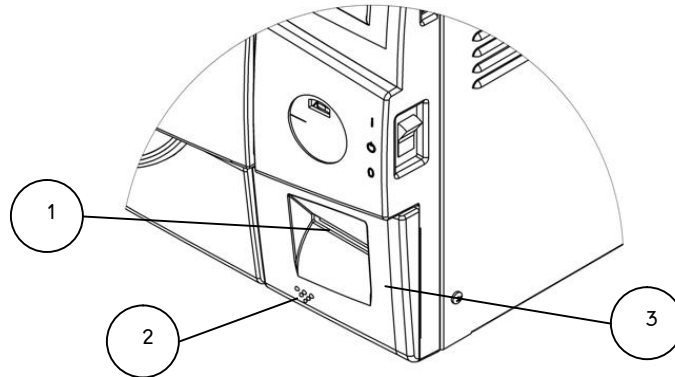

Fig. 2
1. Open the printer's cover door (3) by pulling it at the left bottom corner (2) (see Fig. 2).
7. Close the printer's cover door (3) by pressing corner (2), with the tip end of the paper emerging from the slot (1). See Fig. 2 on previous page.